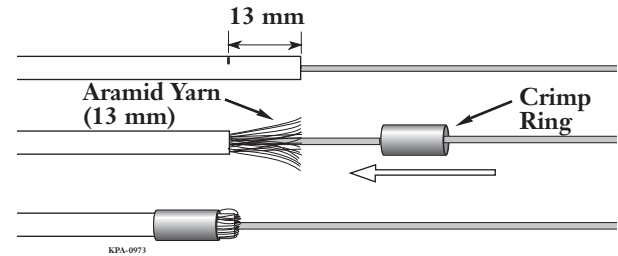

Figure 28 — Trim Yarn and Fold Back with Crimp Ring
- Step 4:** Use scissors to trim the aramid yarn flush with the end of the outer jacket (Figure 28).